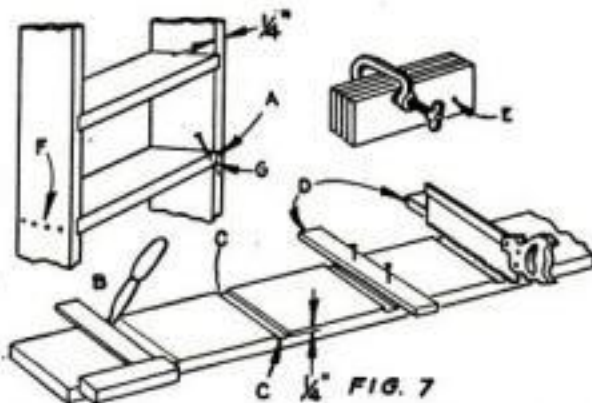

FIG. 7
1. Cut the shelves and the ends to shape, making an allowance of 1/4 in. on each end of each shelf as at A, Fig. 7. Mark the exact thickness of each shelf on the end pieces as at B with a sharp pointed knife, making a deep cut. With a scratch gage, make a line on each edge 1/4 in. from the inside face to indicate the depth of the groove. Tack a straight strip of wood against the line on the outside of the groove as at D, and make a 1/4 in. deep saw cut to the gage line C. Then change the guide to the other side of the groove and repeat the process. With a narrow chisel cut the wood between the saw cuts away to marks C.